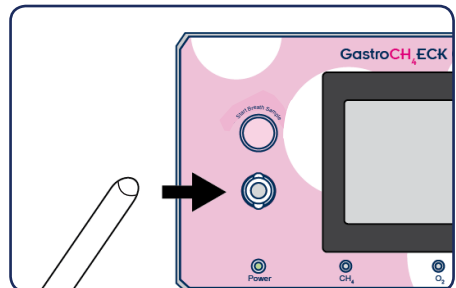

fig. 3
3. Connect the sampling line to the sample line dock for Breath samples. (Fig. 3)